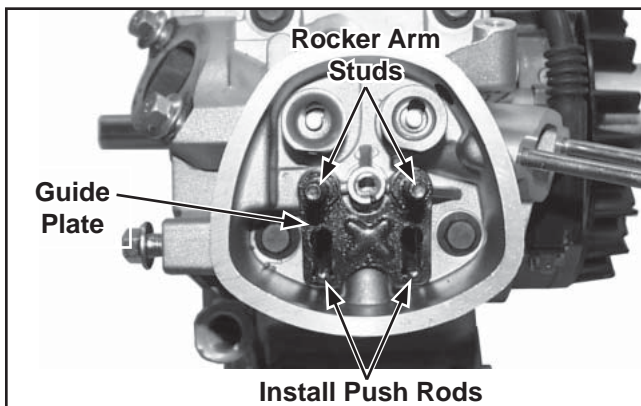

Figure 11-48. Installing Push Rods.
1. Identify the proper position of each push rod. Dip the ends of the push rods in engine oil and install them in their respective locations, seating each into the tappet socket. See Figure 11-48.